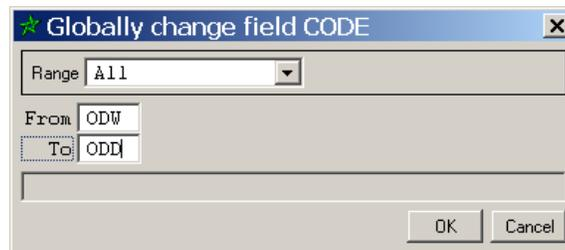
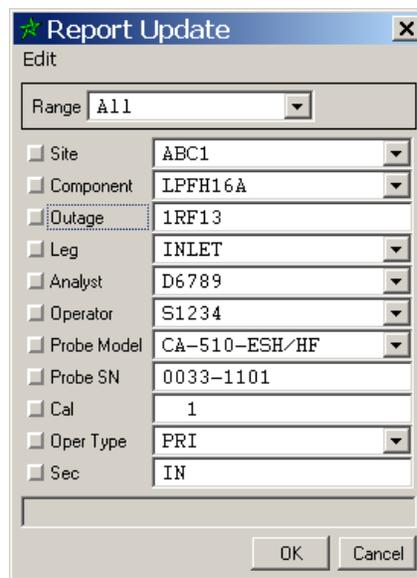
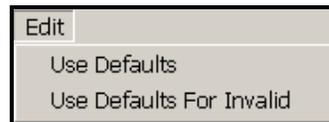

Figure 32. Database | Upload Reports | Import Report Dialog | Global Change Dialog
Figure 33. Database | Upload Reports | Import Report Dialog | Report Update Dialog
Figure 36. Database | Upload Reports | Import Report Dialog | Report Update Dialog | Edit Menu
If you need to make a global edit to a report column(s), there are two (2) editing tools that can help. The **Global Change** dialog shown in Figure 32 or the **Report Update** dialog shown in Figure 33.
Right-click on the report column name that you want to edit. As listed in Figure 33, the **Report Update** dialog will appear for the following fields: *Site*, *Component*, *Outage*, *Leg*, *Analyst*, *Operator*, *Probe Model*, *Probe Serial Number*, *Cal*, *Operator Type*, and *Section*. For all other fields, the **Global Change** dialog will appear.
The **Global Change** dialog acts like a find and replace tool. The value you specify will be changed **From** *x* **To** *y* within the **Range** selected. For example in Figure 32, we need to edit the **CODE** column in the report. The name of the column is shown in the title bar of the dialog. *ODW* was automatically entered in the **From** field because the report line that was selected just before we brought up the **Global Change** dialog had *ODW* in the **CODE** column. You can manually type in this box as many characters as the column allows. For **CODE**, the maximum is four (4) characters. We need to change *ODW* to *ODD*. So, we simply type *ODD* in the **To** box.
As previously mentioned, right-clicking a report column header in order to globally change any of the fields shown in Figure 33 will bring up the **Report Update** dialog. The **Outage** and **Probe SN** fields are the only fields that can be edited manually. The sources of all remaining fields are from the **Lookup** tables, **Summary** fields, or entries on the **EddyAdmin** dialog for the project. All of these fields, with the exception of **Probe Model** and **Probe SN**, are required for the report to be uploaded. If one or more of these fields is empty, a warning will appear when attempting to upload the report indicating that you must have information in that field(s) before it can be uploaded. The **Report Update** dialog is the only way to edit one of these fields.
As shown in Figure 36, there are two (2) selections on the **Edit** menu of the **Report Update** dialog (*Figure 33*). To better understand the purpose of these selections, please review the following foreword.